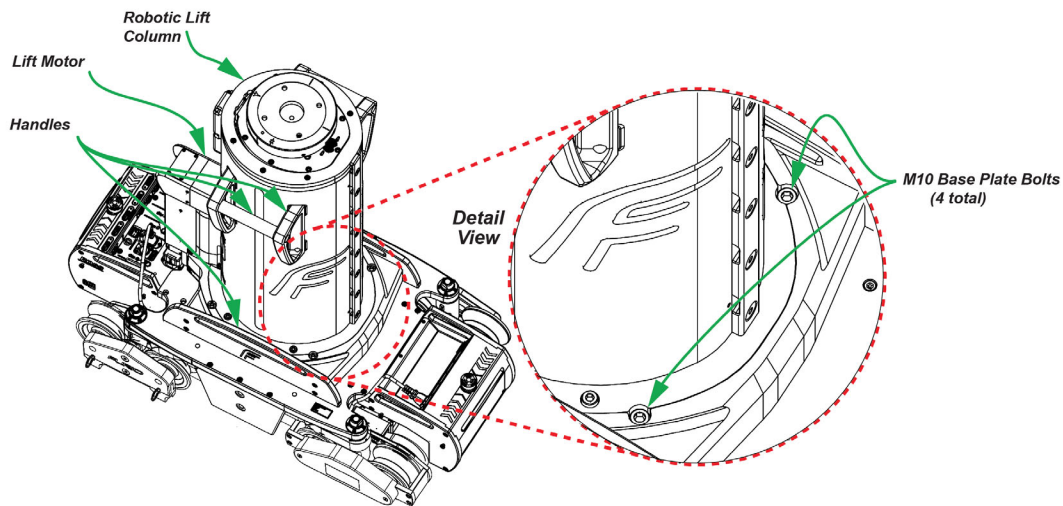

Figure 21 - M10 Base Plate Bolts Connecting the Lift to the Dolly
1. **For a Robotic Lift Column:** Using the 8 mm hexagonal wrench, remove the four M10 base plate bolts that fasten the lift to the dolly base, as shown in **Figure 21**.